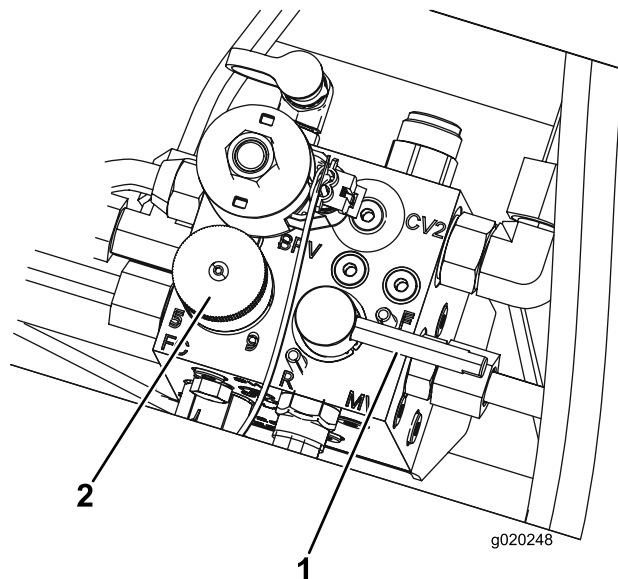

Figure 81
5. Set the reel speed control to position 1 (Figure 81).
6. Move the backlap lever to the R (backlap) position (Figure 81).